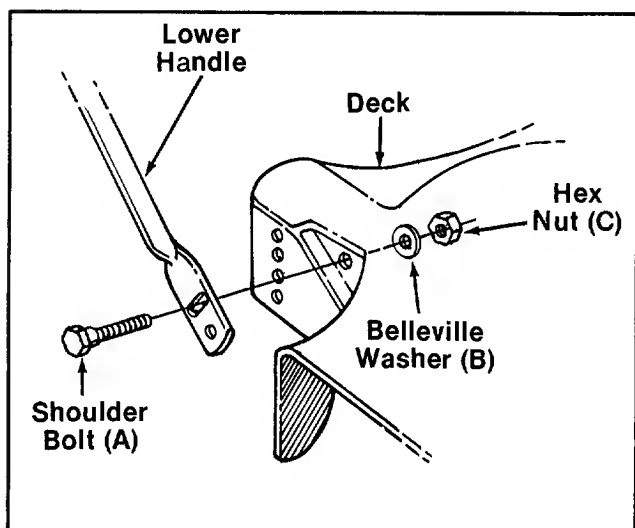

FIGURE 2.
- F (1) Hex Bolt 1/4-20 x 1.50" Long
- G (1) Hex Lock Nut 1/4-20 Thread
- H (2) Shoulder Bolts 2-5/8" Long (Rear Wheels)
- I (2) Spacers
- J (8) Belleville Washers 3/8" I.D.
- K (4) Hex Nuts 3/8-16 Thread
- L (2) Cable Ties
- M (2) Shoulder Bolts 2 1/4" Long (Front Wheels)
- ← 3. Line up the upper slotted hole in lower handle with the mounting hole on deck. Place shoulder bolt (A) through lower handle and deck. See figure 2.